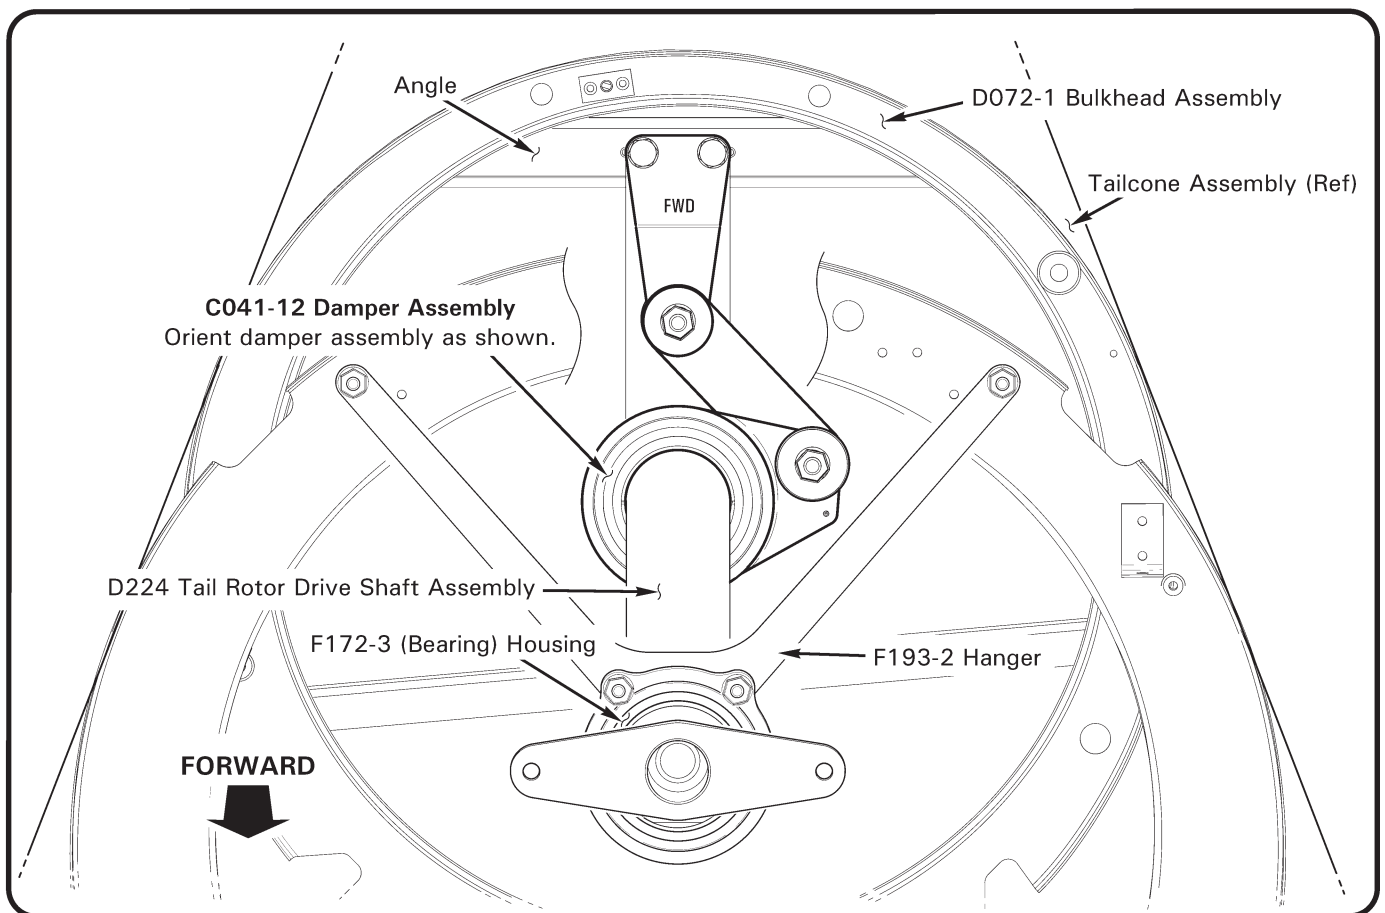

FIGURE 65-3 DAMPER ORIENTATION
3. Refer to Figure 65-3. Using a 3-foot extension, remove bolts securing C041-12 damper assembly arm to D072-1 bulkhead assembly angle. Support forward end of D224 drive shaft assembly.
3. Refer to Figure 65-3. Remove forward A231 (tailcone) plug assembly. Estimate longitudinal gap (or interference) between C041-12 damper assembly arm and D072-1 bulkhead assembly angle. If gap (or interference) exceeds 0.12 inch, contact RHC Technical Support. If gap (or interference) is less than 0.12 inch, verify correct damper orientation. Using a 3-foot extension, install bolts securing damper to bulkhead angle. Standard torque bolts per § 20-32 and torque stripe per Figure 5-1. Install plug assembly.